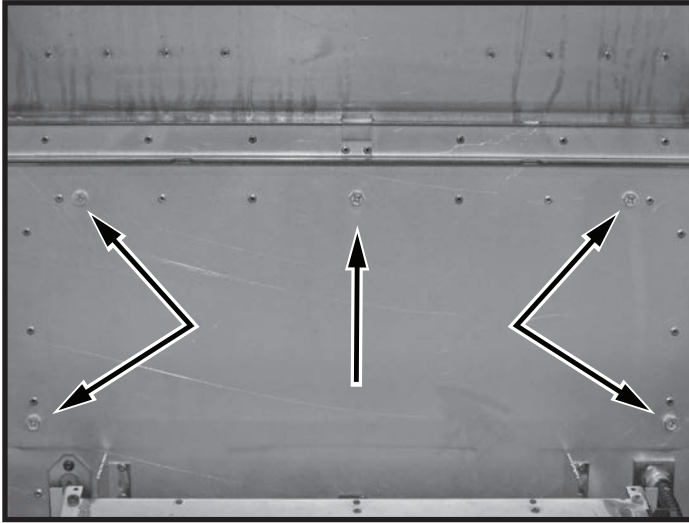

Figure 101: Control panel access bolts.
5. Remove 5 screws holding the control panel unit to the firebox back (Figure 101).